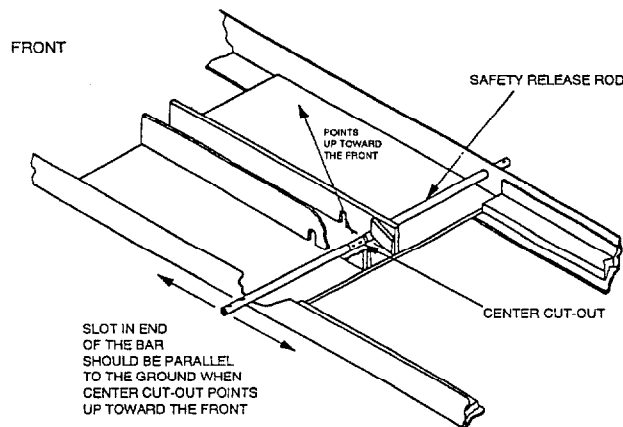

Figure 5: Safety release rod location
1. Locate the two (2) mechanical safety release rods and one (1) mechanical safety release connecting rod.
5. Slot in end of the bar should be parallel to the ground when center cut-out points up towards the front. Refer to **Figure 5**.